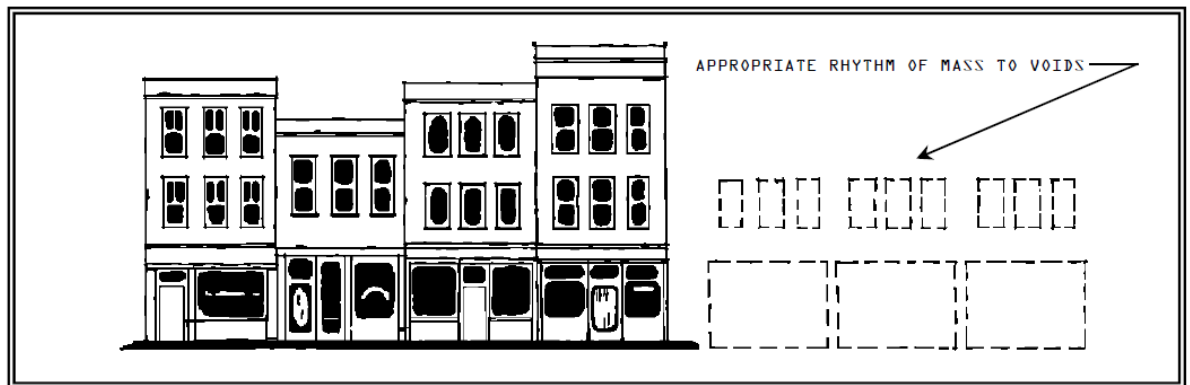

Figure 11 – Openings
- F. **Openings:** Doors and windows on an infill building should be similar in size, proportion, and alignment based on the architectural style of the building, and to those on adjacent facades. The rhythm of structural mass to voids (doors, windows, etc.) should relate to rhythms established on adjacent buildings (see Figure 11).